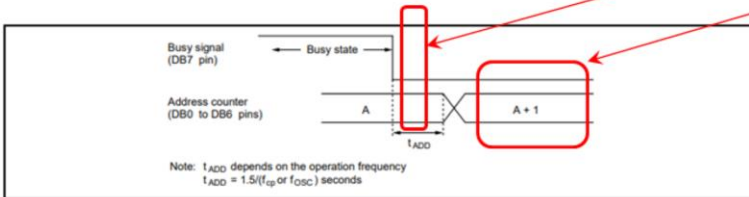

Figure 10 Address Counter Update
- After execution of the CGRAM/DDRAM data write or read instruction, the RAM address counter is incremented or decremented by 1. The RAM address counter is updated after the busy flag turns off. In Figure 10, t_{ADD} is the time elapsed after the busy flag turns off until the address counter is updated.